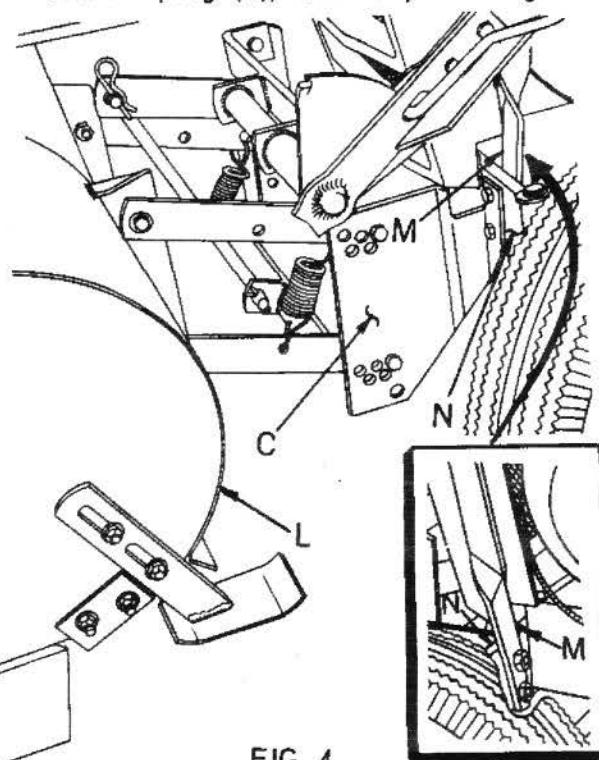

FIG. 4
8. Place snow thrower (L), on six inch blocks as shown in Fig. 4, and push tractor into position to assemble to snow thrower.
9. Bolt L. H. hanger bracket (C), and spout rod support (M), to rocker bar (N), with two 3/8 x 1-1/2 hex bolts and gripco nuts. Bolts and nuts will be found in plastic bag. Leave bolts loose. NOTE: Spout rod support (M), is assembled to rear of rocker bar (N).